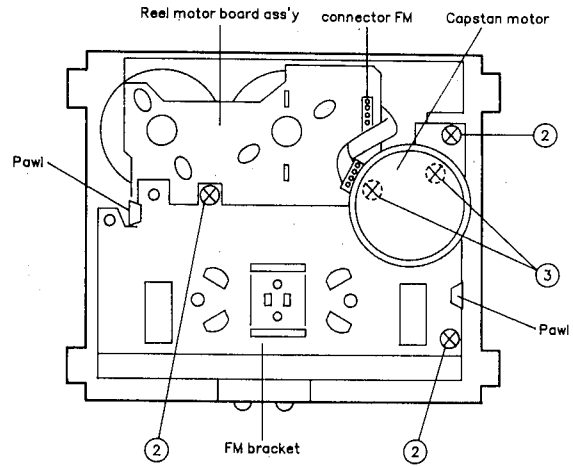

Fig. 2 - 10
2. Remove three screws ② and disengage two pawls, and then the FM bracket and the capstan belt can be removed. (Fig. 2 - 10, 2 - 11)
3. Remove two screws ③ retaining the capstan motor from the FM bracket. (Fig. 2 - 10)
4. For reengaging the capstan belt, refer to Fig. 2 - 11.
◆ **Flywheel ass'y (Fig. 2 - 12)**